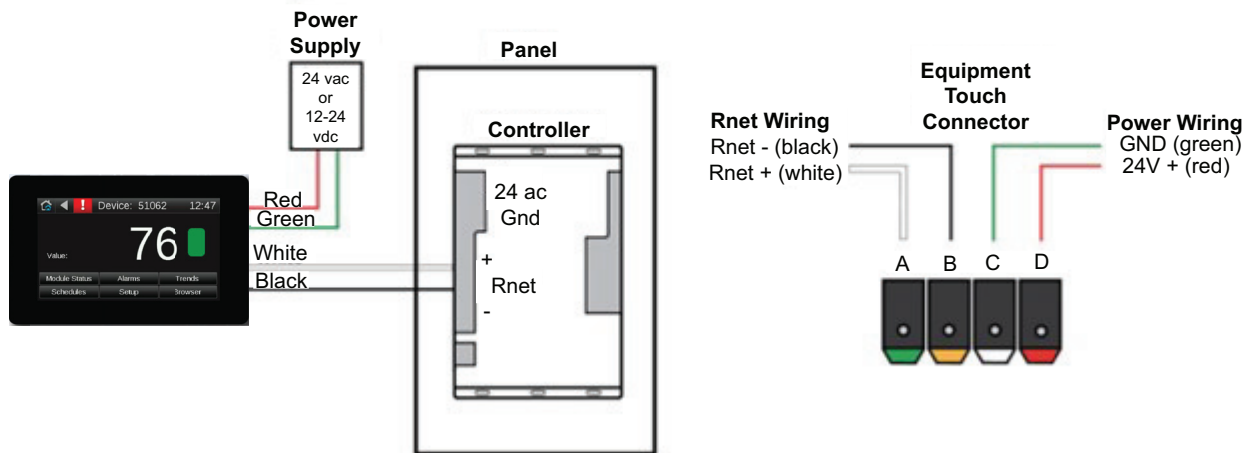

Fig. 6 — Wiring Equipment Touch Interface to TruVu™ Controller
6. Connect wiring to the Equipment Touch as shown in Fig. 6.